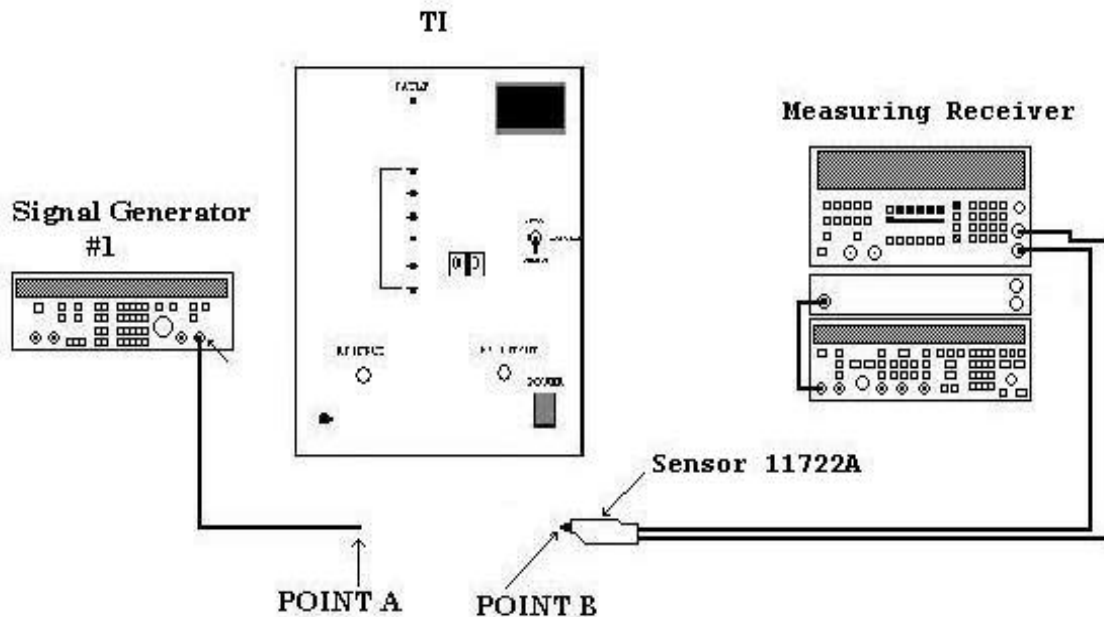

Figure 1. Equipment setup.
- (1) Connect POINT A (fig. 1) to the TI **RF INPUT** and POINT B (fig. 1) to TI **RF OUTPUT**. Set signal generator No. 1 **RF OUTPUT** on.